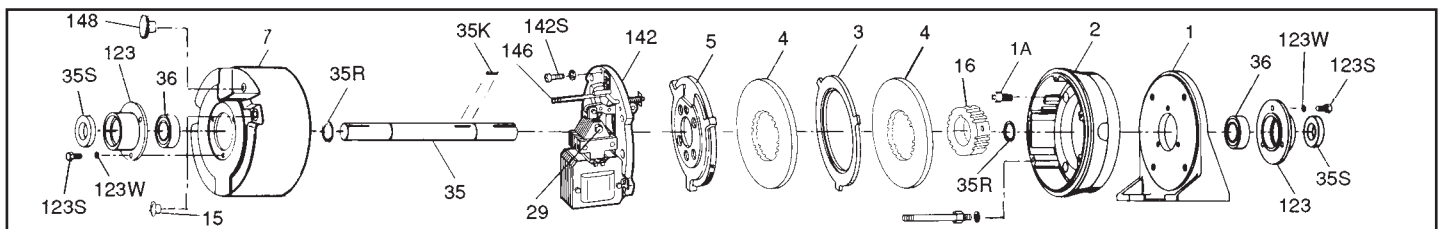
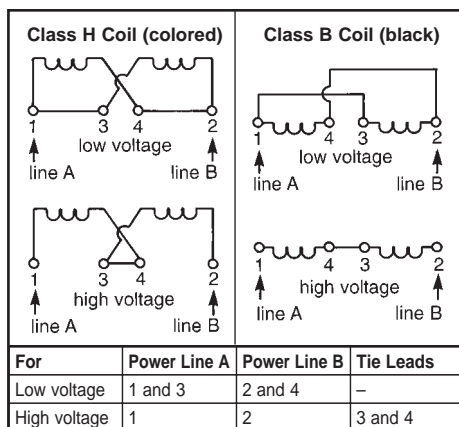

Figure 1A
Figure 4
II. Installation Procedure - 87,200 (See Figure 1A)
As shown in the exploded view, Figure 1A, the 87,200 Brake is very similar to the motor mounted 87,000 Series. It is, however, a self-supported, foot mounted unit, with an integral bearing supported through-shaft. Since disassembly is not required prior to mounting, installation is simplified.
1. Dual voltage coils may be factory preconnected for high voltage with wire nuts. Checking coil connection is suggested. On the 87,200 only, coil lead wire termination is accessible at lead wire outlet of endplate (2). Four lead style are marked on leads for connection per Figure 4. Two unmarked leads mean preconnection made for high voltage. If reconnection of a dual voltage
coil is required (two unmarked leads) on the 87,200, housing (7) must first be removed per Section and Figure 1A. Reconnect coil for appropriate voltage as shown in Figure 4. Bring out line leads.
2. On single voltage coils, connect coil to any two leads on single or three-phase motors of the same voltage as the brake. Refer to brake nameplate and coil number for correct voltage and frequency. See Figure 4 for dual voltage coil connection and connect to any two leads of single or three-phase motor of the same voltage. The brake can also be wired to external switch contacts providing proper voltage other than that used to control the motor. Normally, the motor and brake contacts are interlocked.